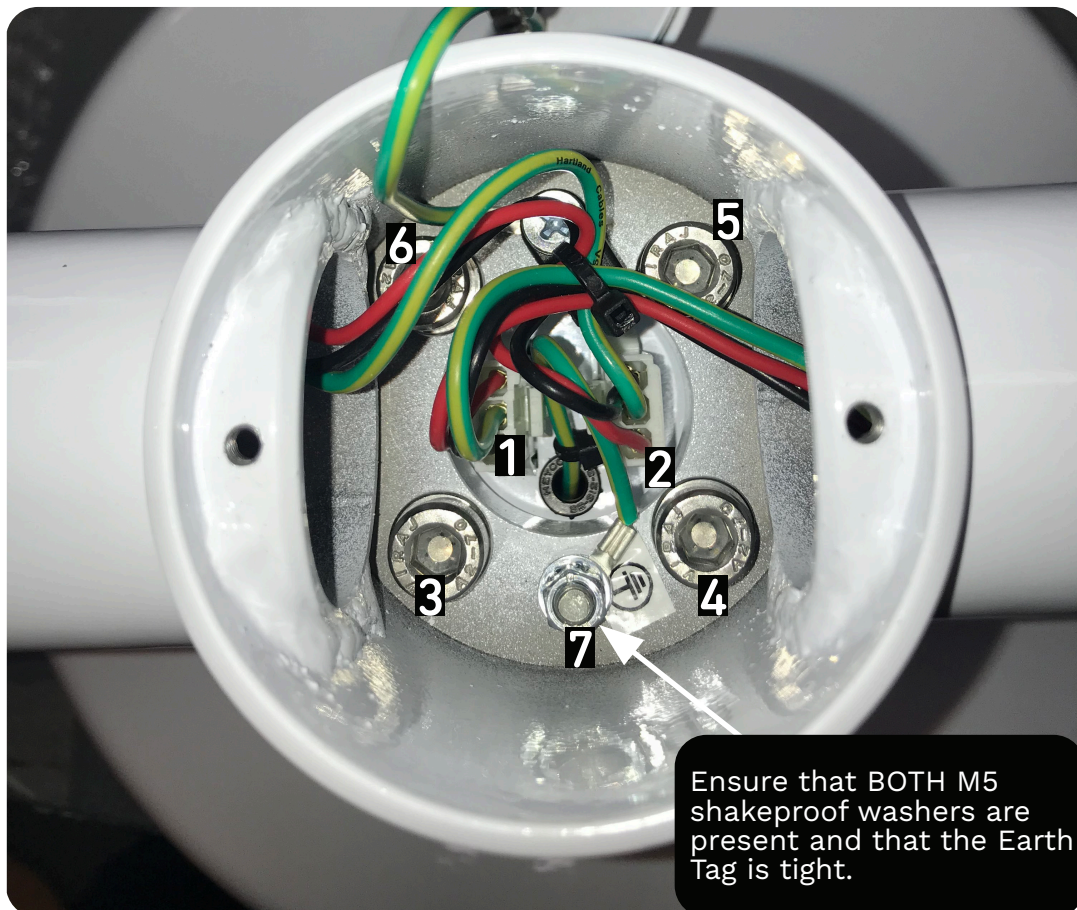

Fig. 10
4. Reconnect the M5 Earth Tag (7). **NOTE! Remember to include BOTH M5 shakeproof washers.** (Fig. 10).